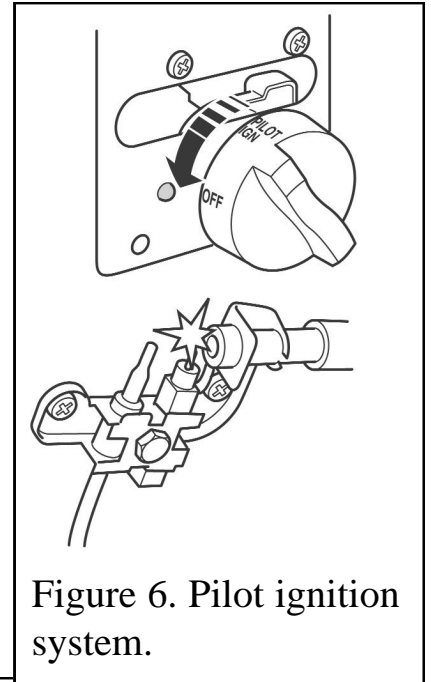

Figure 6. Pilot ignition system.
- Depress the control knob and rotate it anticlockwise to the pilot ignition position. A 'click' will be heard as the integral piezo operates. A spark should be seen between the electrode and pilot tip (See figure 6).